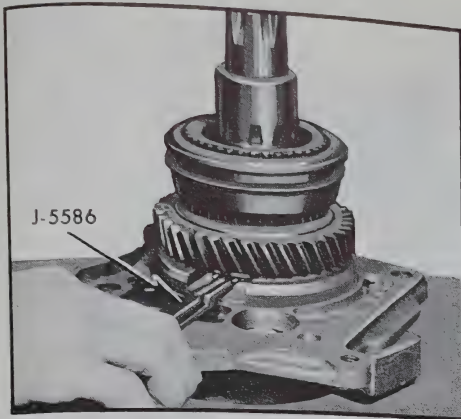

Figure 4-137—Installing Rear Bearing Retainer
11. Install the rear bearing retainer (see Figure 4-137). Spread the snap ring in the plate to allow the snap ring to drop around the rear bearing and press on the end of the mainshaft until the